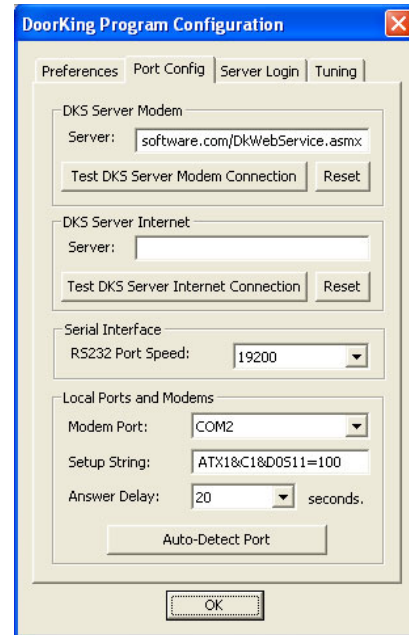

Figure 7
1. Click the CONFIG PORTS icon in the tool bar. The port configuration window will appear (Fig 7).